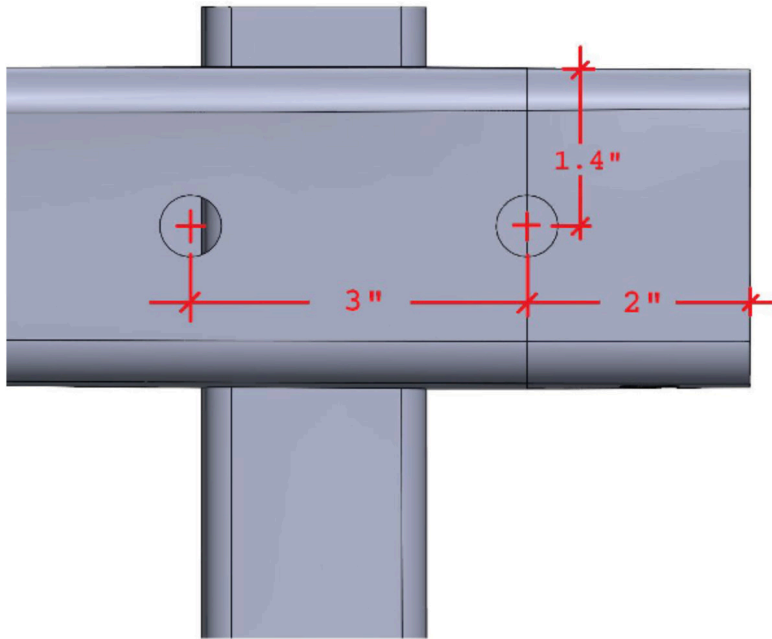

Figure 3
4. Use a 9/16" drill bit to drill two holes on the inside of the frame on both driver and passenger side. Use the diagram below for measurements. Figure 3.